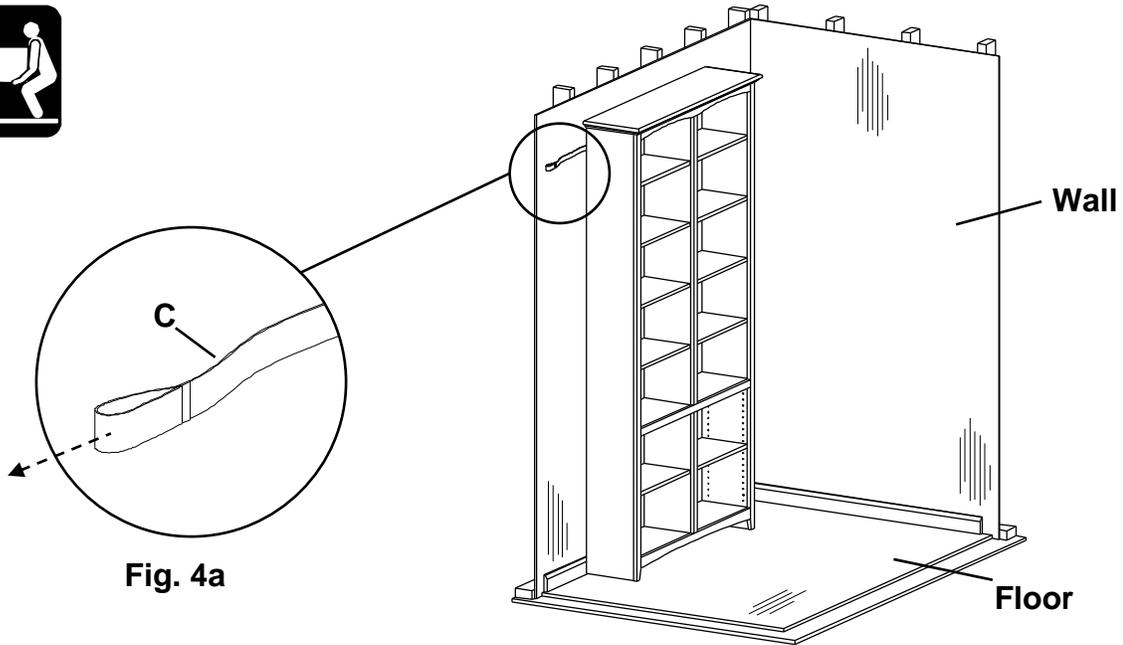

Fig. 4
4. Place your bookcase close to the wall. Reach behind and pull the loop end of the Long Strap (C) toward the end of the bookcase until the strap is tight. Once you have enough length of the strap drawn through to reach past the end of the bookcase shift the piece as close to the wall as possible and retighten the strap. See Figures 4 and 4a.